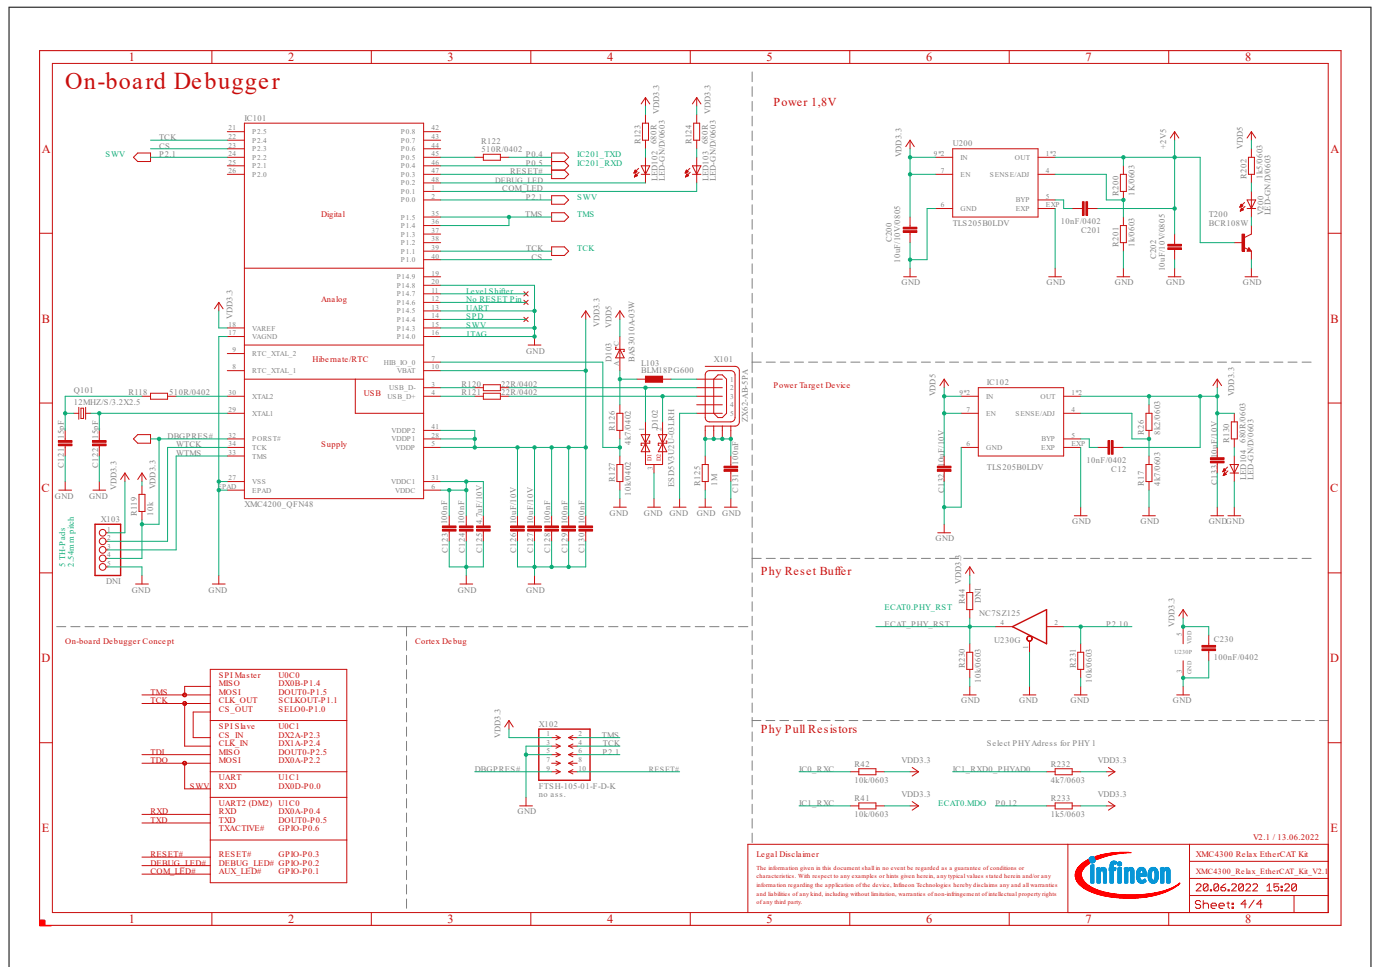

Figure 18 On-Board Debug Probe, Power Supply (See Revision 1.2)
- Figure 18 (See Revision 1.2)